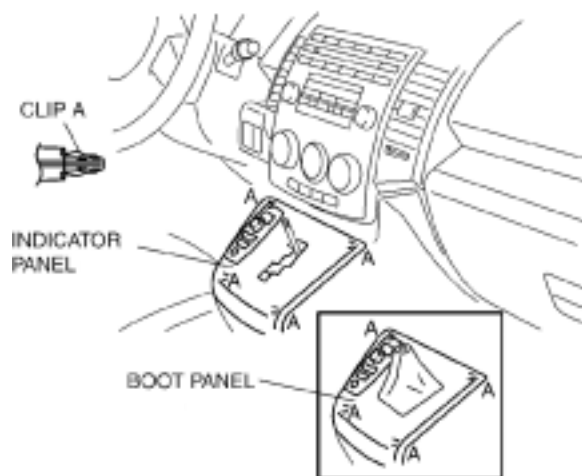

FIGURE 2
- 2.) USE A FIBER STICK TO PULL THE INDICATOR PANEL, BOOT PANEL UPWARD AND DETACH CLIPS A. (SEE FIGURE 2)